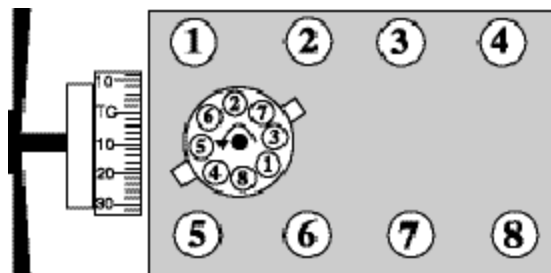

Figure 3 - Ford 351 c.i.d. V8 (Windsor)
6. See Figure 3 for Firing Order and Cylinder Numbering.